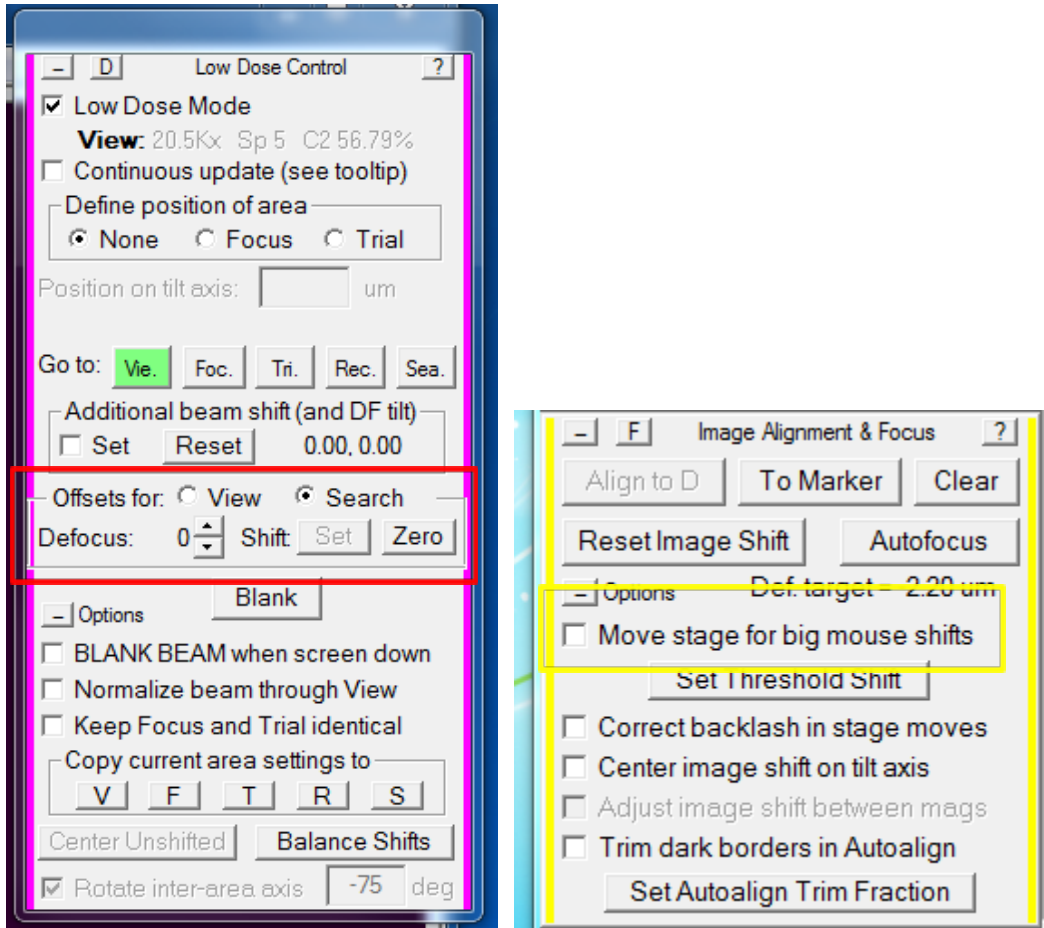

Figure 6: Images highlighting the View and Search Defocus offsets (left, red box) and the Move stage for big mouse shifts checkbox (right, yellow box).
30. You absolutely must do the shift offsets (image shifts) for View and Search (Figure 6). This is sort of like the 'Shift to Marker' adjustment that you do between LM and SA, but it is between specific sets of images. It should not need to be adjusted after you initially set it, but you should check that it's still centered each time. If not centered, then zero the value and go through the process below.
- iv. First make sure that 'Move stage for big mouse shifts' in the 'Image Alignment & Focus Control' box is unchecked (Figure 6)!